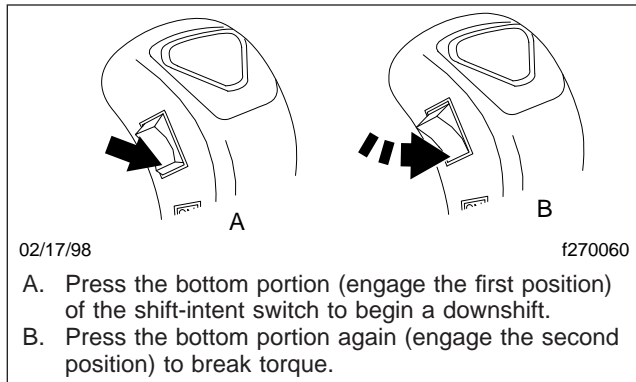

Fig. 8.20, ESS Downshifting Using the Shift-Intent Switch
the HI range on upshifts and the bottom of the switch (Fig. 8.20) to select the LO range on downshifts.
- 1.3 Press the bottom portion of the shift-intent switch again, far enough so that the switch goes into a second position inside the body of the shift knob. Then release the switch. See Fig. 8.20. This will break torque.